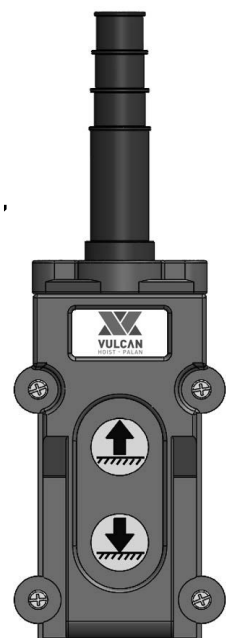

Figure 4.4
2. Single Speed Pendant Control – When using the pendant control depress the UP button to raise the hoist load chain / hook or the DOWN button to lower the hoist load chain / hook as shown in figure 4.4. To stop motion, release the buttons.
3. Dual Speed Control – Pendant controls supplied with dual speed hoists have two step control buttons. For low speed, depress the button halfway to the first step and for high speed, depress the button fully to the second step. Use the UP button to raise the hoist load chain / hook or the DOWN button to lower the hoist load chain / hook as shown in Figure 4.4. To stop motion, release the buttons.